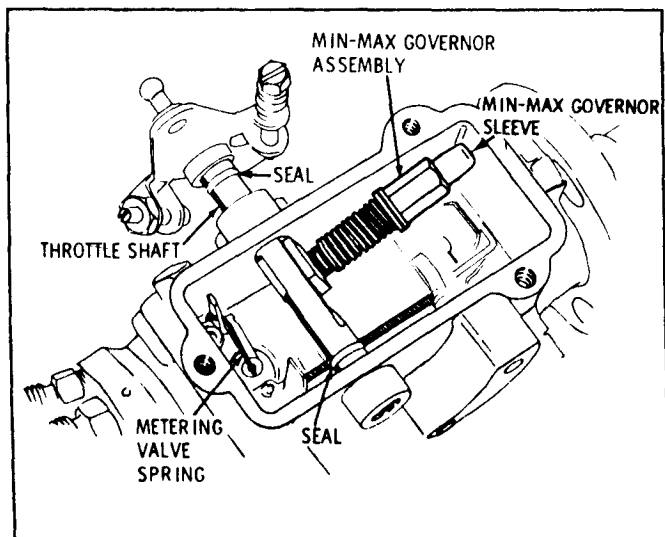

Figure 6C5-29 Injection Pump Cover Removed
12. Rotate the min-max governor assembly up to provide clearance and remove from the throttle shaft. (Figure 6C5-29).